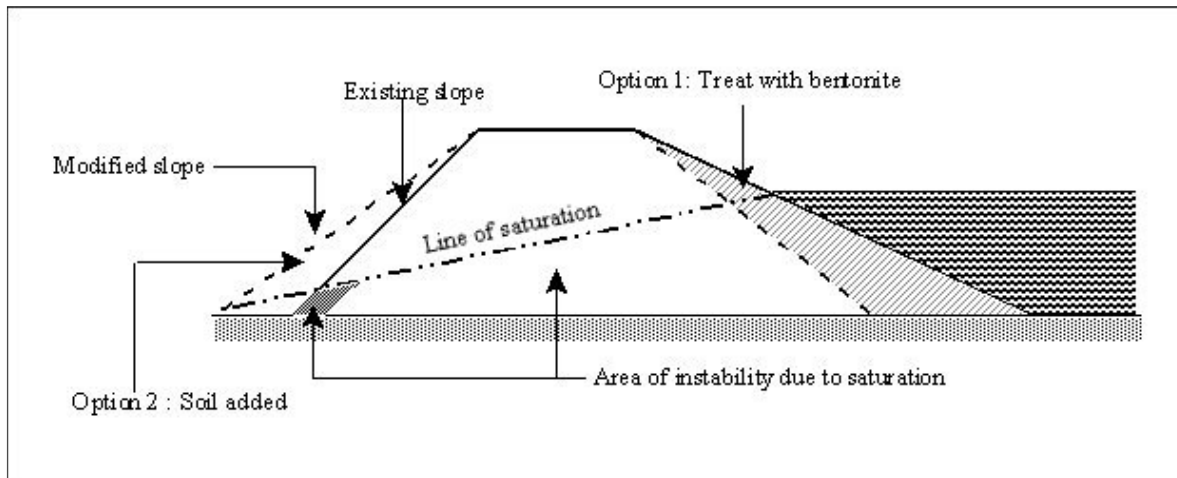

Figure 1. Cross section through dam wall showing how too steep a side slope can cause instability
of the embankment, or because the side slopes of the embankment are too steep. No earth embankment is entirely impermeable, and when water builds up against it, seepage takes place laterally into the embankment. It has a downward tendency under gravitational attraction as well. All the material below the so-called line of saturation is unstable, and the idea in designing an earth dam wall is to make sure that this line of saturation does not intercept the downstream sideslope. If it does, the soil surface below it (see Figure 1) will be unstable, seepage is accelerated and a slip circle could cause the collapse of the embankment. There are three methods of reducing this type of seepage:
- drain the dam and treat the waterside face with one of the preparations discussed later in treating seepage through the basin (Figure 1)
- broaden the downstream width of the wall in order to cover the line of saturation (Figure 1).